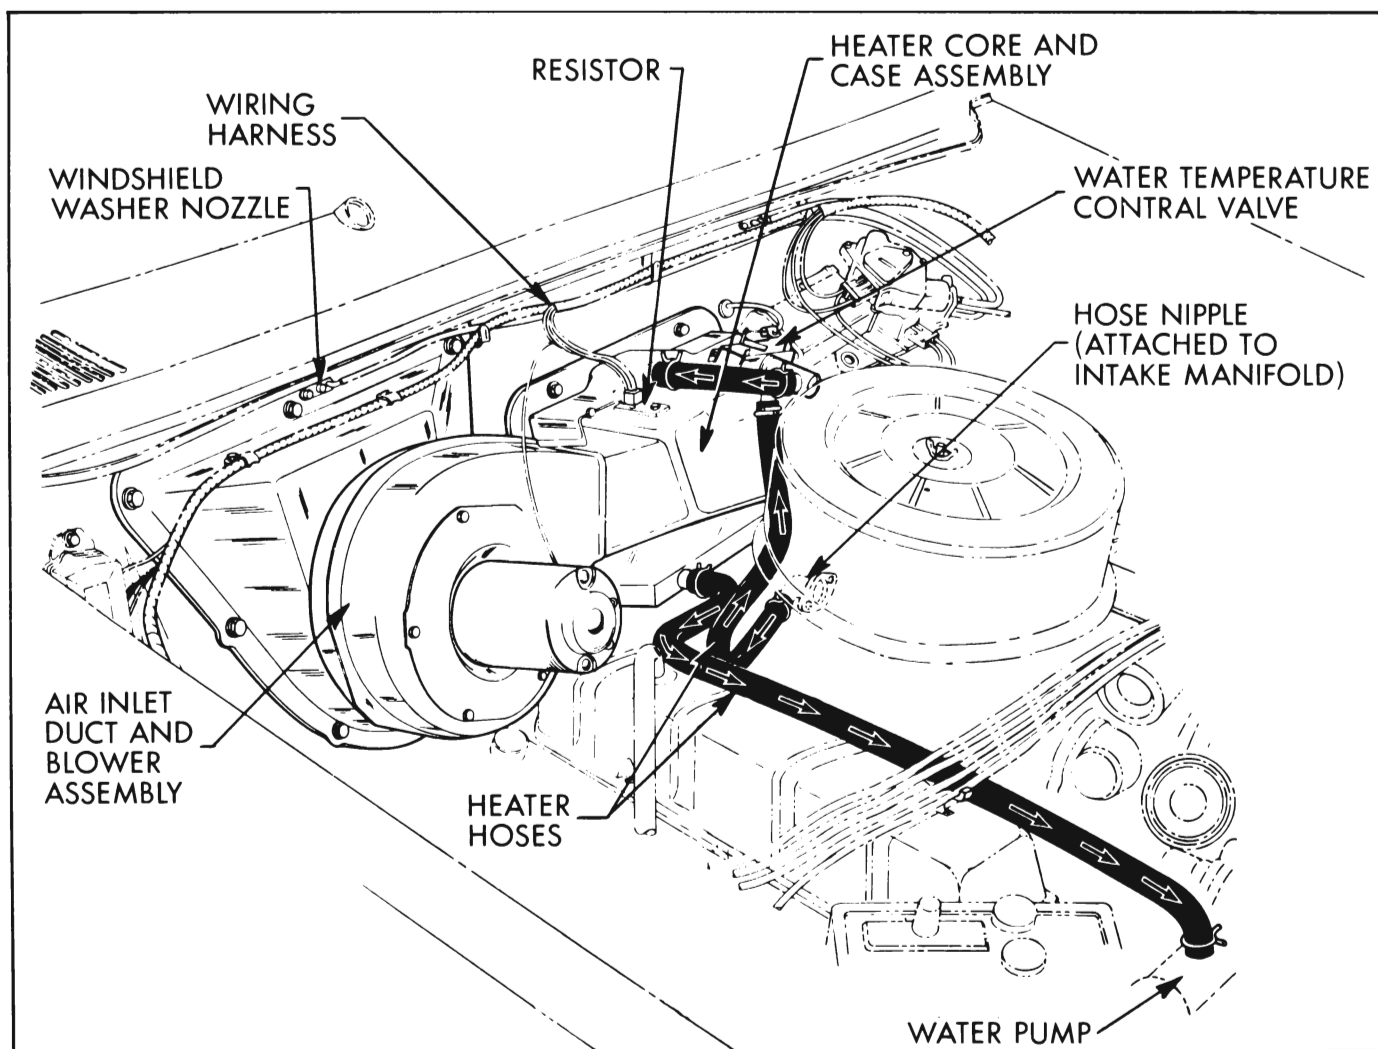

Figure 11-9—Heater Water Flow - V-8 Engine
temperature control valve is open, is from the rear of the intake manifold through the temperature control valve, into the top of heater core, through core, out of core at bottom and to suction side of water pump. See Figure 11-9.
2. Remove right windshield washer nozzle. See Figure 11-9.
5. Kinked heater hose. 6. Foreign material obstructing water flow in heater core. 7. Temperature control valve improperly adjusted. 8. Defective temperature control valve. 9. Heater outside air valve not open. 10. Blower inoperative. 11. Heater hose routed incorrectly.	5. Remove kink or replace hose. 6. Remove foreign material. 7. Adjust "Temp" lever control wire. 8. Replace. 9. Check operation of valve and adjustment of "Air" control lever wire. 10. See subparagraph d. 11. See Figures 11-9 and 11-10.